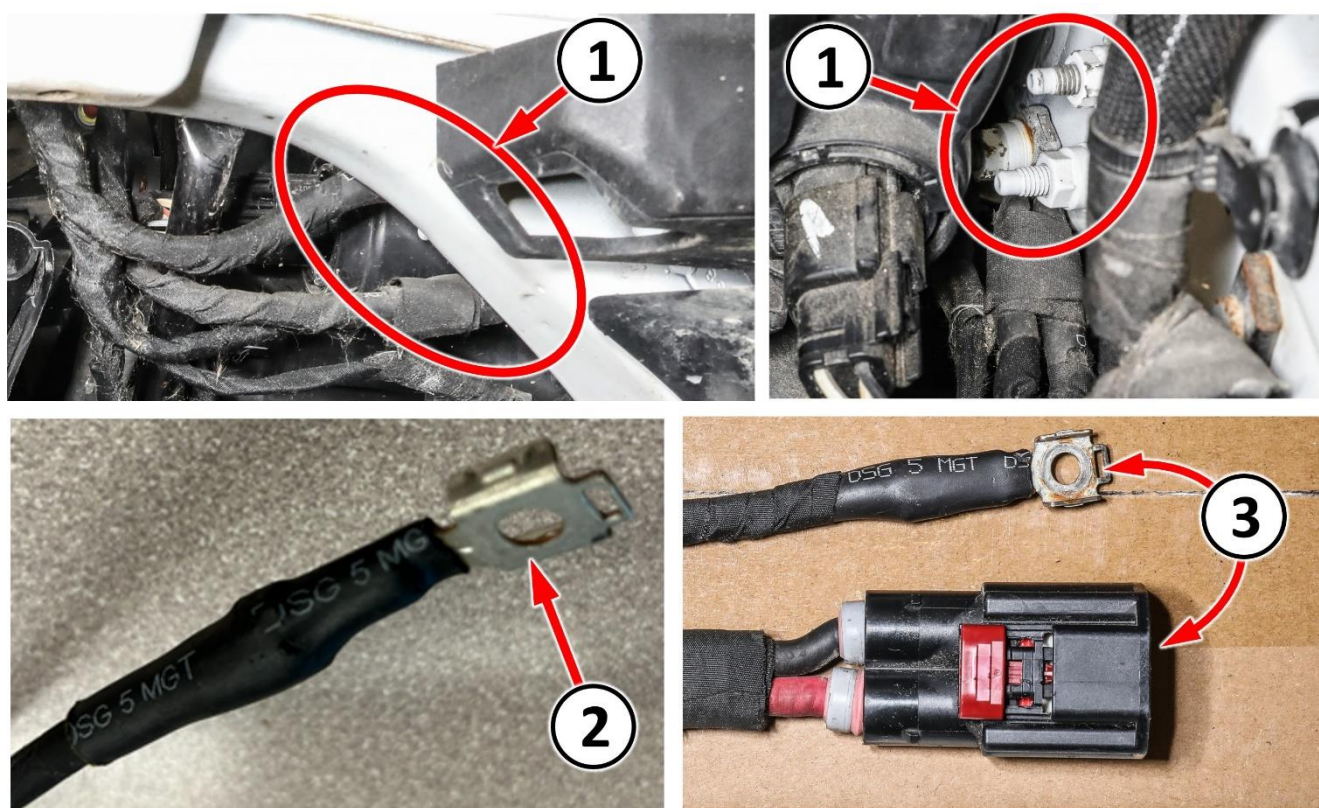

Figure A10 – EHPS Ground G908A - Near Right Side Headlamp
32. Locate EHPS ground G908A on body of vehicle near the right-side headlamp on one of three studs (Figure A10).
33. Remove the ground nut and eyelet off the stud then verify continuity with a multimeter between G908A ground eyelet and EHPS connector D2704A cavity 1 black wire. Also verify the EHPS ground circuit is isolated from chassis ground (Figure A10). **NOTE: If a continuity reading is still present between the EHPS ground circuit wire and chassis ground, the wrong wire has been selected.**